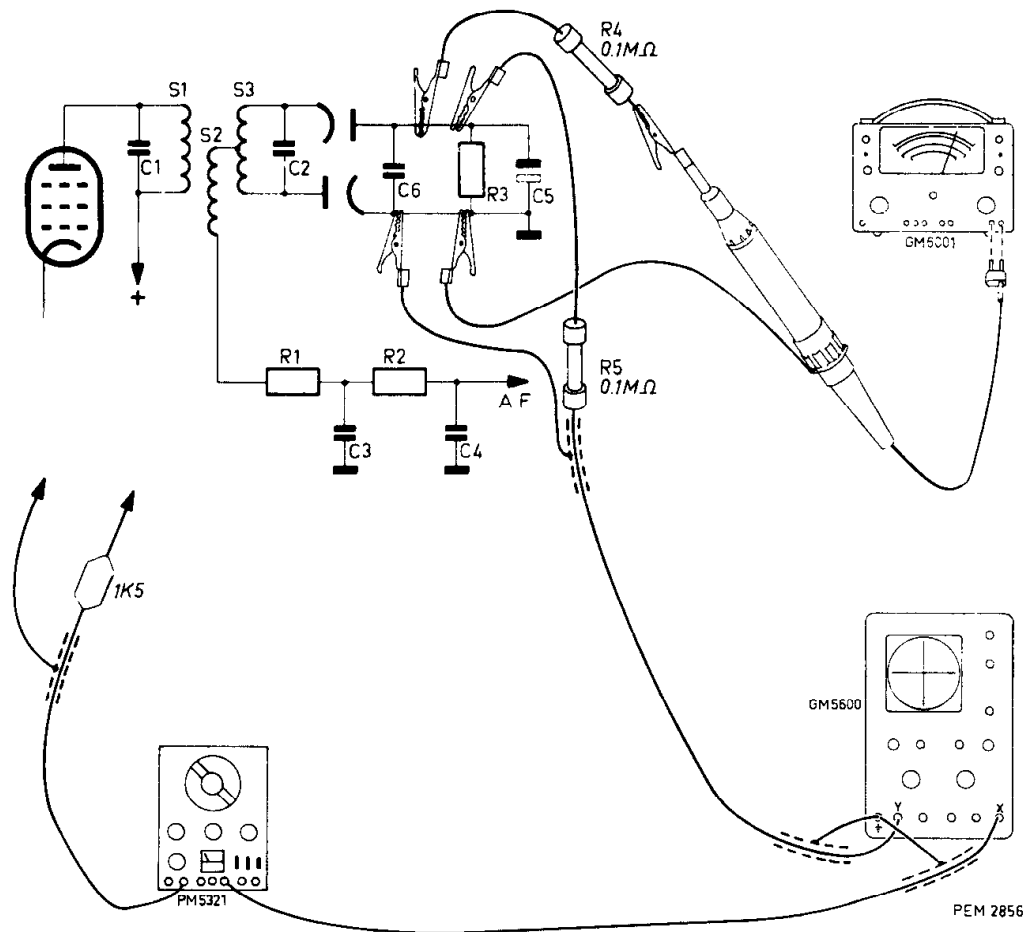

Fig. 19. Dynamic adjustment of an F.M. receiver
#### b. Connecting the measuring instruments (see Fig. 19)
1. Connect the valve voltmeter across resistor R3 of the detector circuit via a resistor of  $0.1$  M $\Omega$  (R4 in Fig. 19). Adjust the voltmeter to a measuring range of  $-3$  V d.c.
6. Unsolder the electrolytic capacitor in the ratio-detector circuit (C5 in Fig. 19).
9. Now connect again the electrolytic capacitor (C5, Fig. 19). Adjust the core of the secondary circuit of the last I.F. band-pass filter (discriminator) to maximum deflection of the a.c. voltage meter. The deflection of the valve voltmeter must be less than  $-3\text{ V}$ , so that the output voltage of the generator must be decreased if necessary.
*Checking the discriminator curve* – Connect the oscilloscope across capacitor C4 (Fig. 19). The centre of the straight part of the displayed curve must be on the line EF (Fig. 23). If the curve has an asymmetrical or non-linear shape, repeat points 6...9).
10. Unsolder the electrolytic capacitor (C5 in Fig. 19). Adjust the cores of the other band-pass filters to maximum height of the curve in the sequence indicated in the trimming table (Fig. 22, curve I). In doing so, the band-pass curve must always be symmetrical with respect to the middle of the screen (Fig. 22, line EF, curve II).
11. *Checking the A.M. suppression* – Resolder the electrolytic capacitor (C5, Fig. 19). Set the A.M. switch (SK3) of the PM 5321 to "INT.". The wave-form on the oscilloscope will now show a sinusoidal modulation, the amplitude of which varies from zero (in the middle of the discriminator curve) to a certain value (at the end of the straight part). The A.M. suppression is sufficient, if the latter amplitude is smaller than  $1/10$  of the height of the curve.
1. Connect the valve voltmeter across resistor R3 of the discriminator circuit, via a resistor of 0.1 MΩ (R4 in Fig. 19). Adjust the measuring range of the valve voltmeter to —3 V d.c.